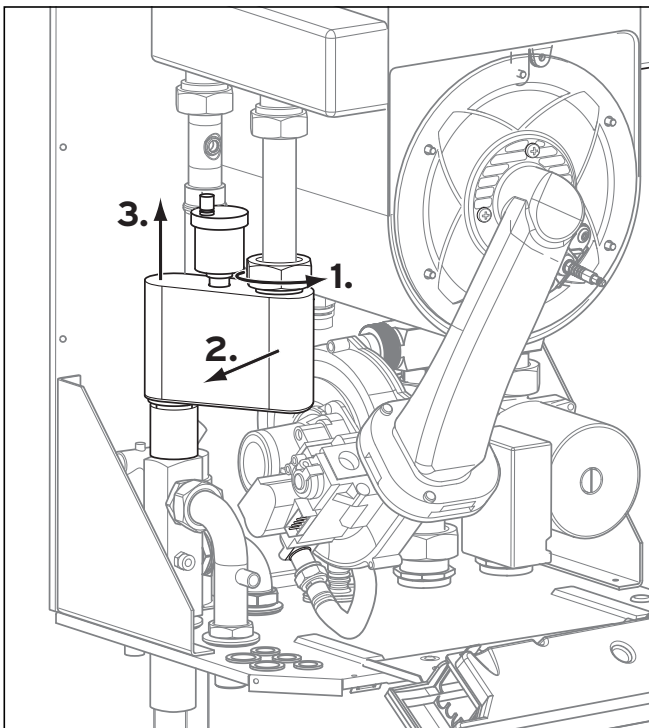

Fig. 7.6 Cleaning the air separator
- Dismount the air separator as shown in fig. 7.6 and rinse it with hot water.